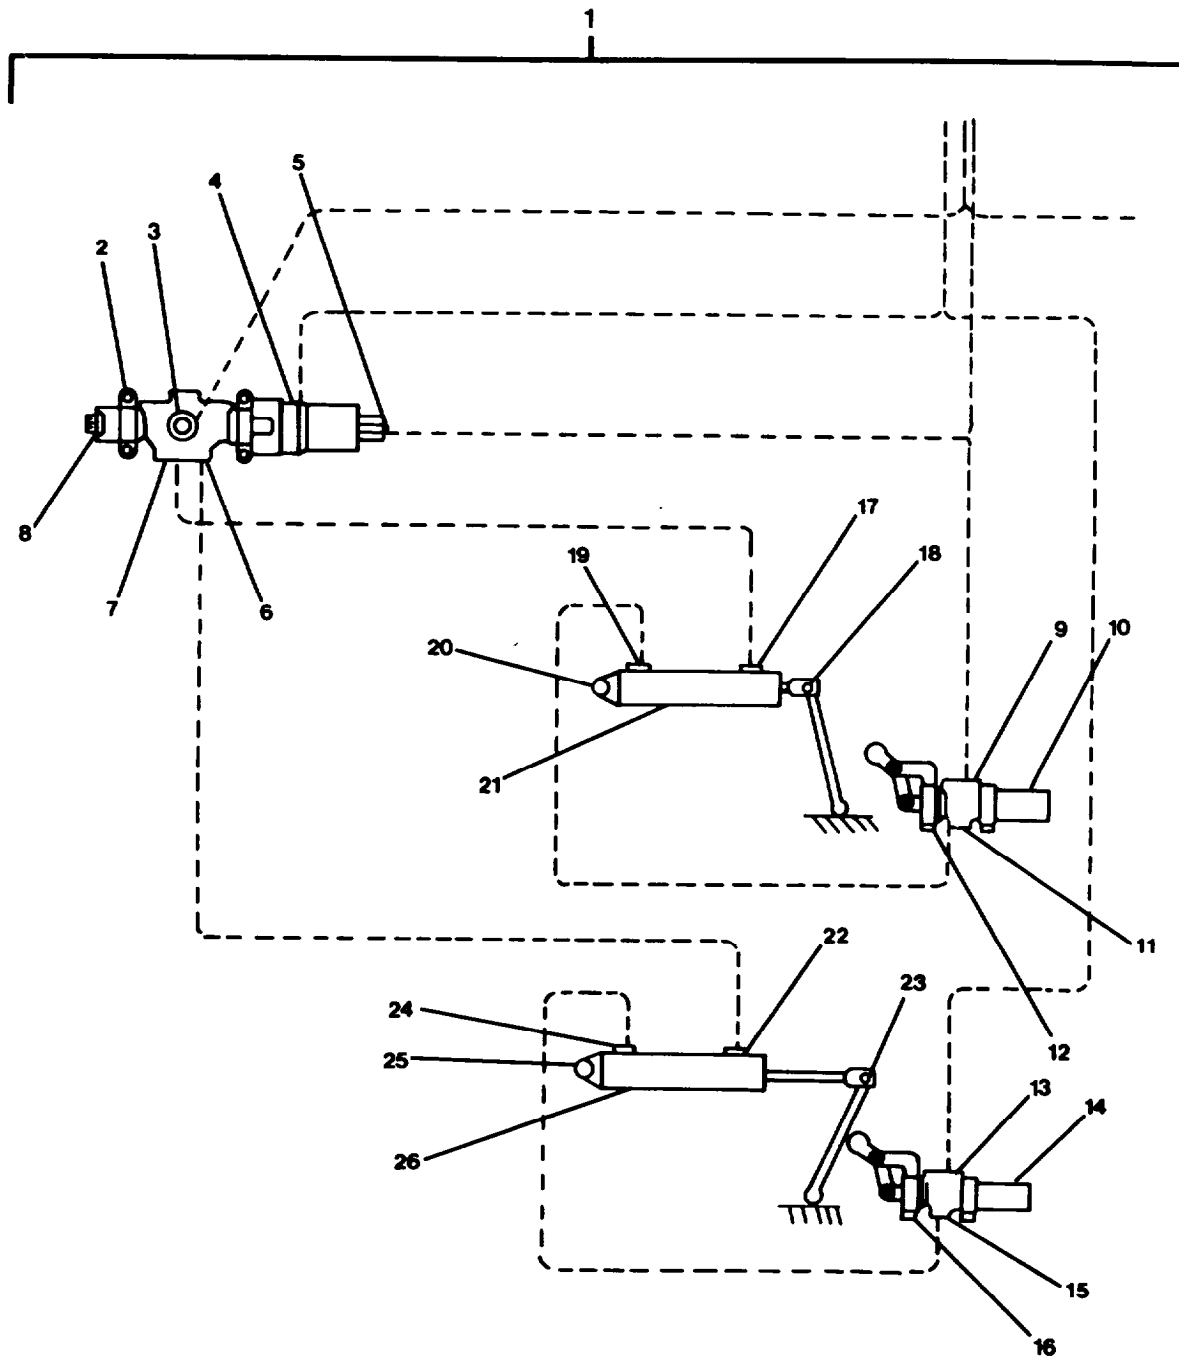
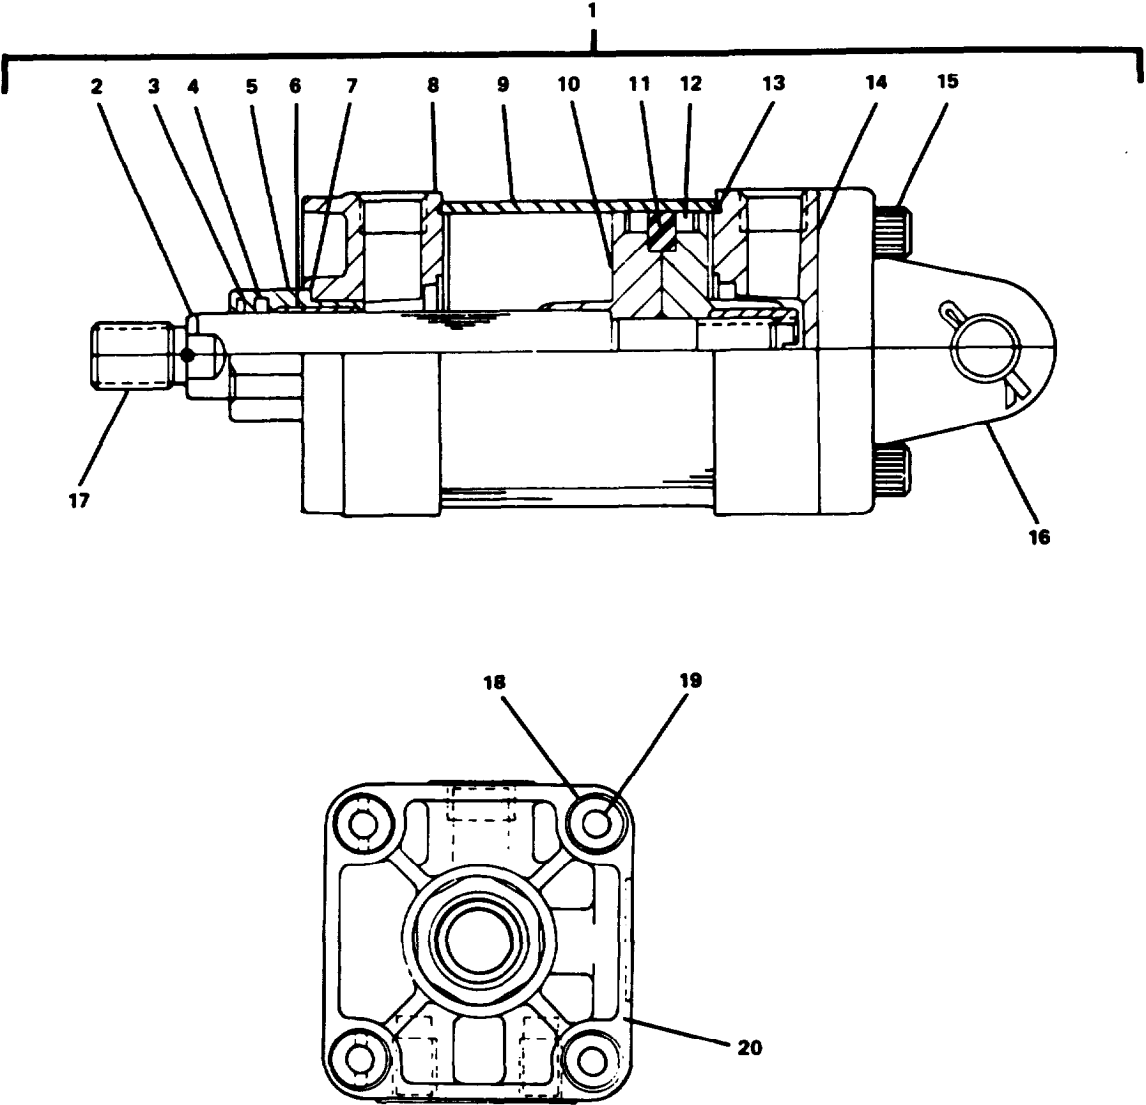

FIGURE 2-112. Bowthruster/Fire Pump Valve System.
FIGURE 2-113. Cylinder Assembly.
REMOVAL (FIGURE 2-112)a. Remove Four-Way Valve.
DISASSEMBLY (Cylinder Assembly) (FIGURE 2-113).
- a. Repair at this level of maintenance is by replacement of four-way valve (8, FIGURE 2-112), roller operated valves (10, 14), preformed packing (3, 4, 7, 12, and 13, FIGURE 2-113), wearing ring (11), and bearing rod (6).
ASSEMBLY (FIGURE 2-113)
REPLACEMENT (FIGURE 2-112)